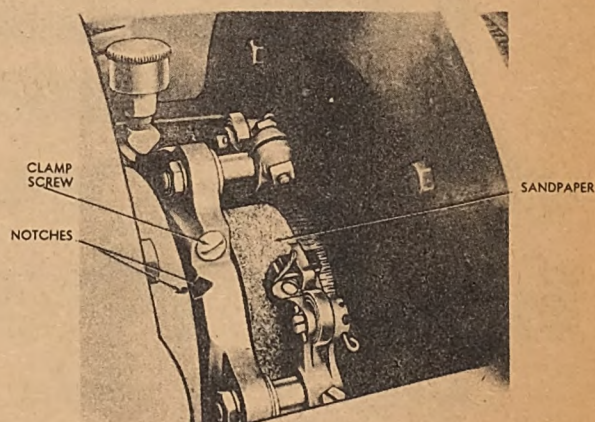

Fig. 31. Exciter Brush Yoke
(4) Check the exciter brush rigging for proper setting. Figure 31 shows the correct setting. The notches are exactly opposite each other. The clamp screw for the brush yoke should be tight.
(5) Check the clearance between adjacent sets of generator brush holders. At the same time check to see that the brushes ride on the approximate center of collector rings.
(6) Raise the brush springs for exciter brushes and the levers for generator brushes and move the brushes up and down in their holders. They should move freely, not bind.
(7) The commutator and collector ring surfaces should be clean. If not, wipe them with a clean cloth moistened in carbon tetrachloride or an equivalent. To clean them thoroughly,